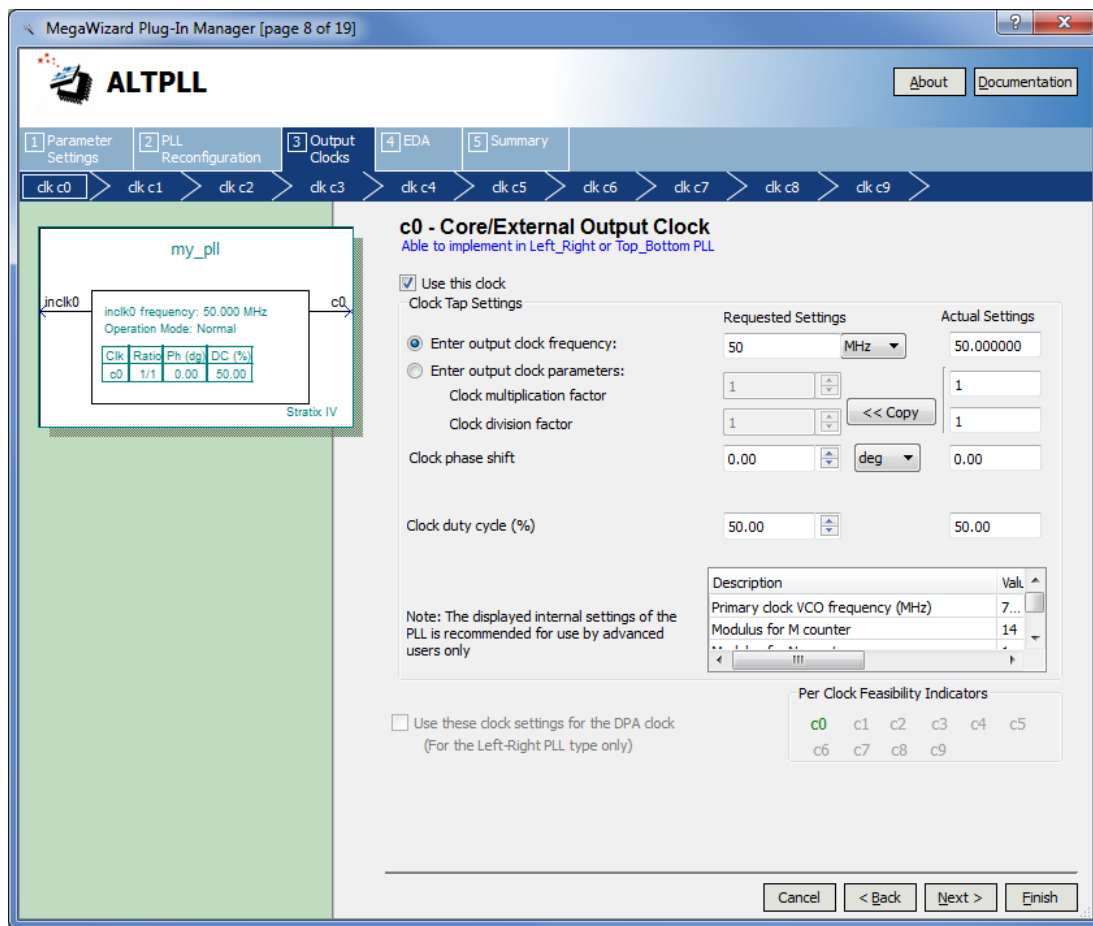

Figure 16. Settings for output c0.
6. Under the **Output Clocks** tab, enter 50MHz after selecting **Enter output clock frequency** as shown in Figure 16, and click **Next** to go to the **clk\_c1** section.